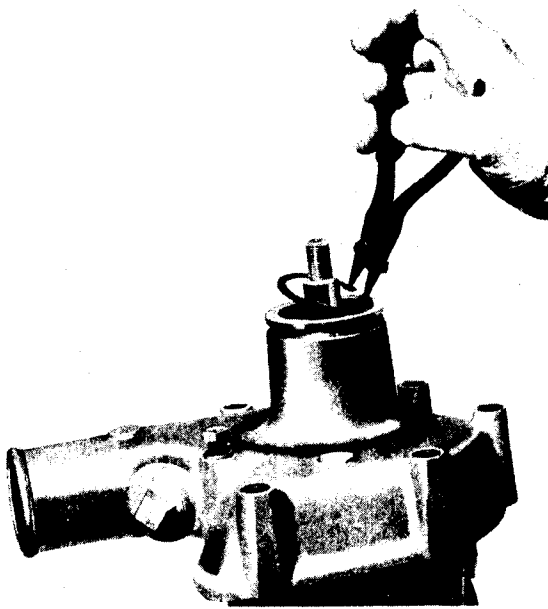

Fig. L.5.
6. Remove bearing retaining circlip using a pair of circlip pliers (see Fig. L.5).